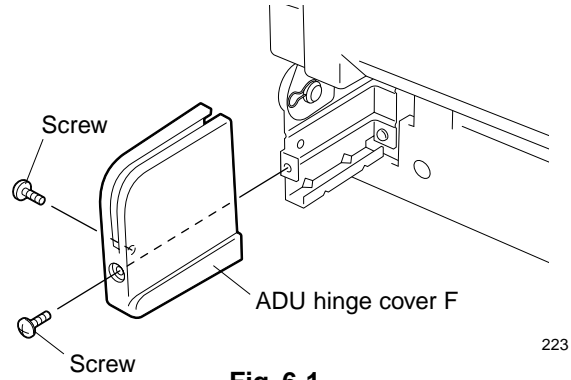

Fig. 6-1
1. Detach ADU hinge cover F. (See Fig. 6-1)